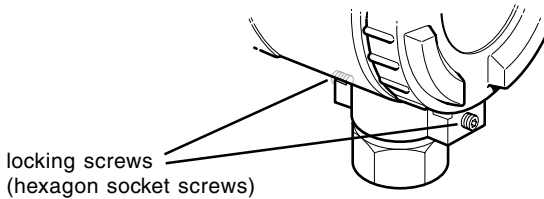

Figure 3-2 Housing locking screws
3.5 To Rotate the Housing (Figure 3-2)